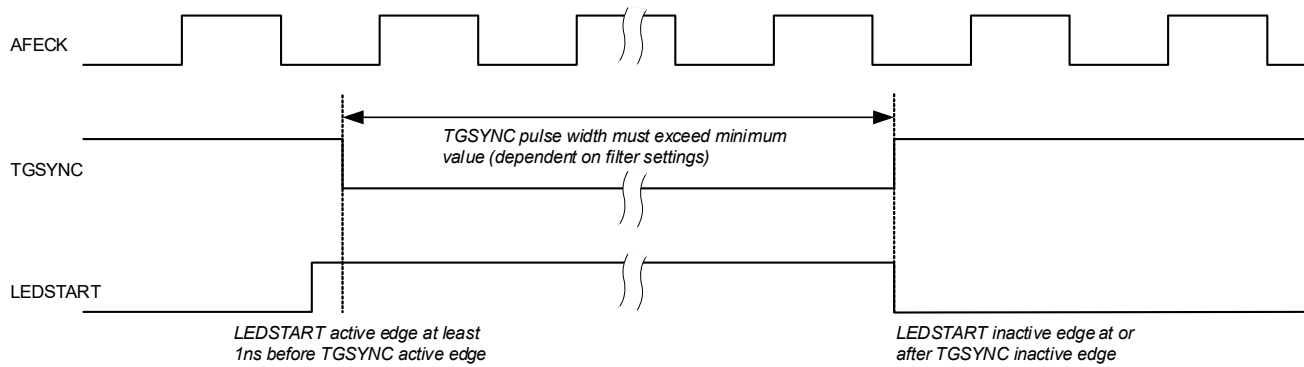

Figure 4-55. TGSYNC/LEDSTART Timing—TG Mode
- If Clocking Mode 1 or 2 is selected, the timing requirements are as illustrated in Fig. 4-55.